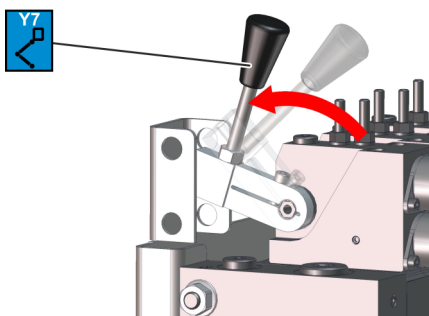

Fig. 165: Valve Y7
4. ➔ Pull the valve (Fig. 165/Y7) up.